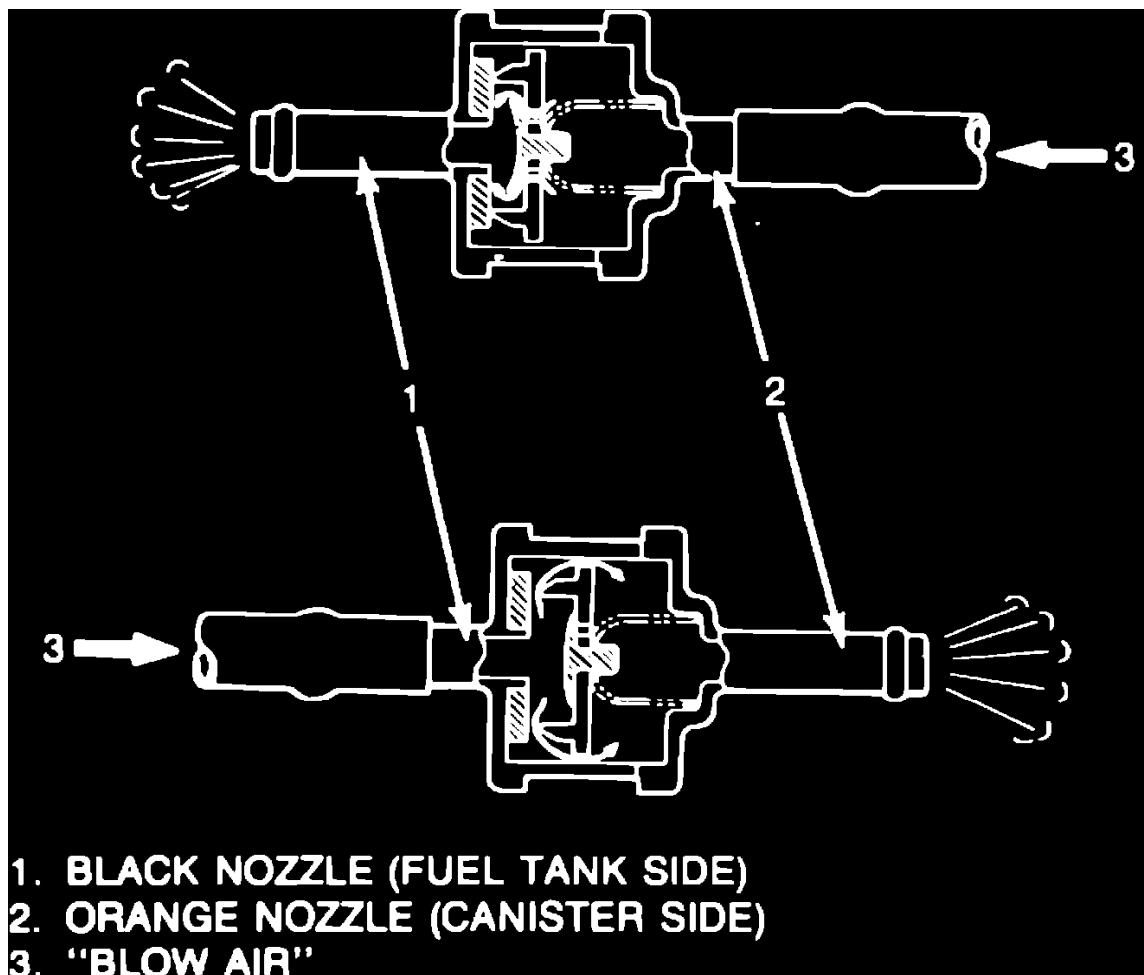

Fig. 7 Checking two-way check valve
1. Connect new hose to orange nozzle (canister side). Blow into new hose and check that air escapes from black nozzle (fuel tank side), **Fig. 7**.